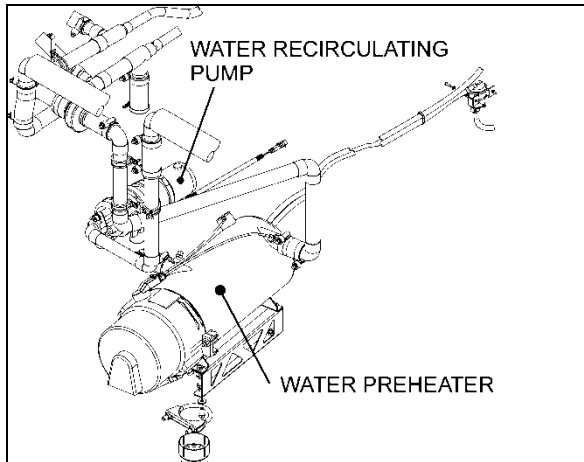

FIGURE 59: PUMP LOCATION – X3 SERIES
- X3 Series - coolant preheater compartment (Figure 59)